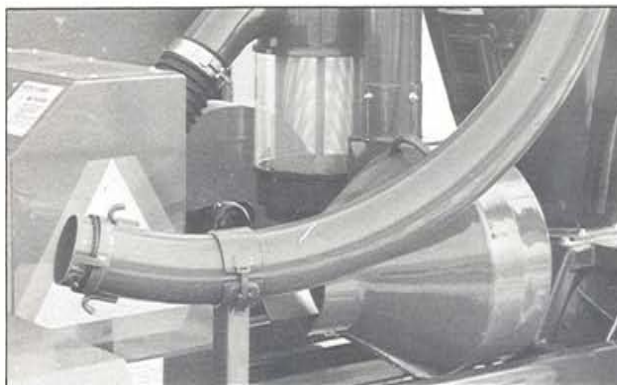

Figure 13 Clamp boom - deluxe
5. Unlatch the transport clamp holding the boom in position. (see figure 13) Rotate boom 90 degrees towards the rear of the machine.